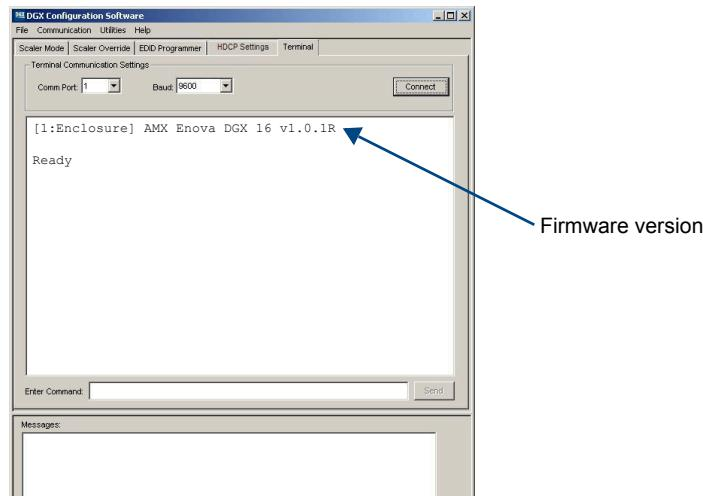

FIG. 118 Power-up splash screen in DGX Configuration Software’s Terminal view
- At system boot, the ~scrv0i1 setting is displayed (FIG. 118 on page 214).